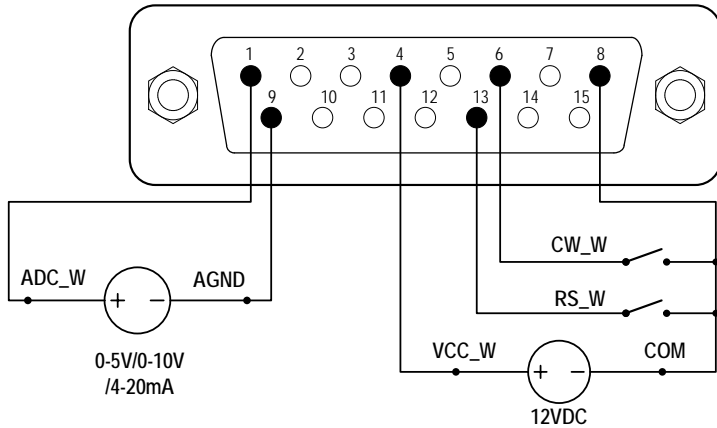

Figure 14. DB15 Wiring with External 12VDC Power Source
- 1) Switch the power of the pump off. Wire the DB15 connector as shown on *Figure 14* or *Figure 15*, and connect it to the DB15 port on the rear of the pump.